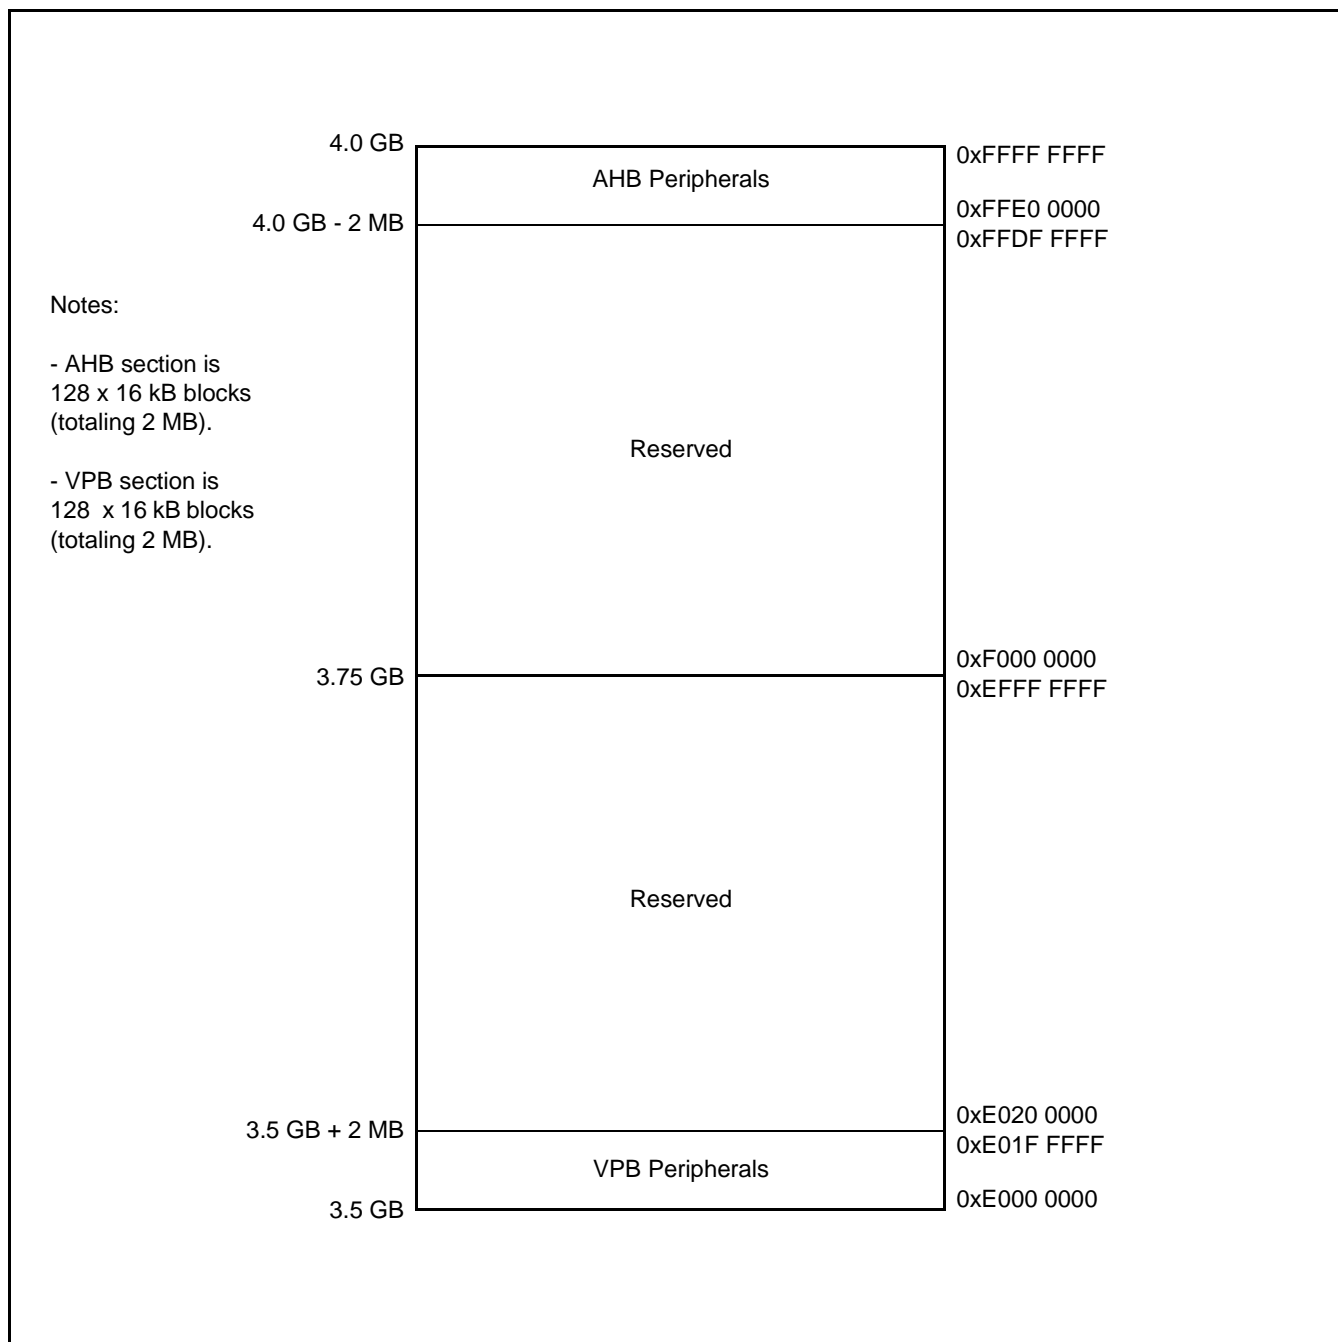

Figure 3: Peripheral Memory Map
Figures 3 through 5 show different views of the peripheral address space. Both the AHB and VPB peripheral areas are 2 megabyte spaces which are divided up into 128 peripherals. Each peripheral space is 16 kilobytes in size. This allows simplifying the address decoding for each peripheral. All peripheral register addresses are word aligned (to 32-bit boundaries) regardless of their size. This eliminates the need for byte lane mapping hardware that would be required to allow byte (8-bit) or half-word (16-bit) accesses to occur at smaller boundaries. An implication of this is that word and half-word registers must be accessed all at once. For example, it is not possible to read or write the upper byte of a word register separately.
- Reserved regions of the AHB and VPB spaces. See Figure 3.